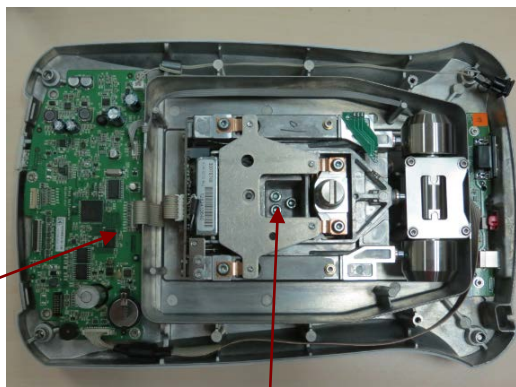

Figure 3-74. Insert the 3 screws to secure Precision Load Cell in Bottom Housing.
16. Position the Load Cell in the balance Housing. (See Figure 3-74.) Insert and tighten the three screws. Be sure the Load Cell is squarely mounted in the Housing. Connect the cable from the Main PCB to the Position Sensor Board.